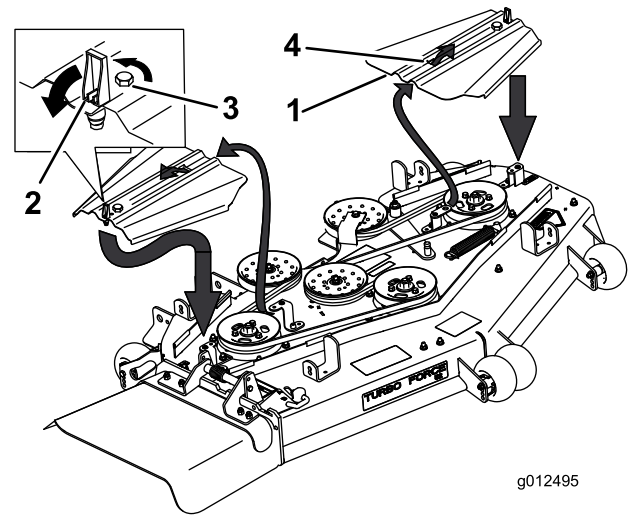

Figure 67
3. Remove the belt covers and the bolts attached to them (Figure 67).
9. Install the belt covers by sliding the cover into the tab, tighten the bolts, and close the latches (Figure 67).